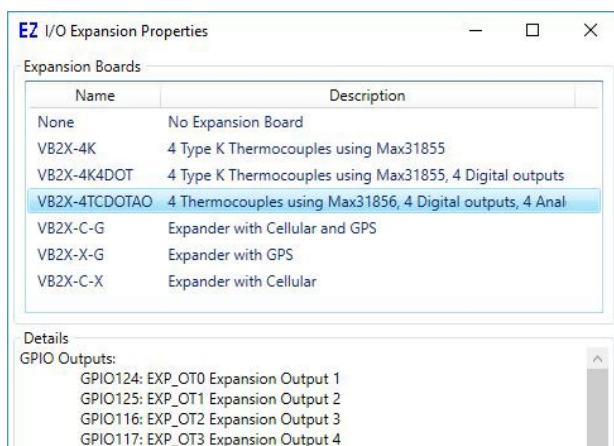

Figure 1-4 - I/O Expansion Properties
3. Highlight the **I/O Expansion** in the list and click the **PROPERTIES** button on the right side of the Expansion pane in the VB-2000 Properties Window. The I/O Expansion Properties Window will open. Refer to Figure 1-4.
4. Select the VB2X-4TCDOTAO expansion board from the list of Expansion boards. Refer to Figure 1-4. The Details section of the window will update with the devices supported on the expander (for reference only) that will be installed in the project settings of the program.